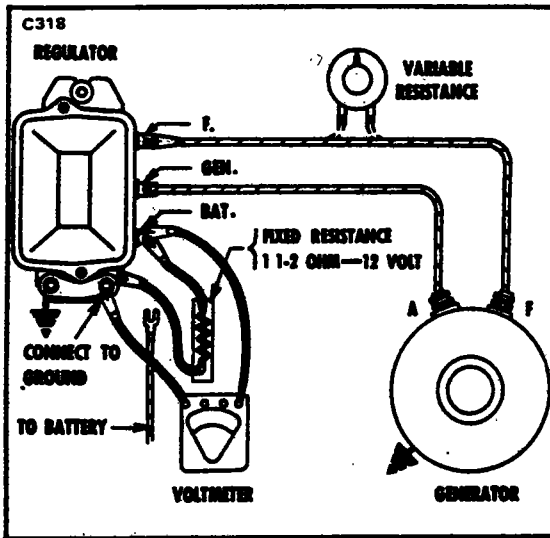

Figure 11-7. Checking Voltage Setting Fixed Resistance Method
b. Voltage Setting: There are two ways to check the voltage setting; the fixed resistance method and the variable resistance method. (Refer to Figures 11-7 and 11-8.)
(a) Connect a fixed resistance between the battery terminal and ground as shown in Figure 11-7 after disconnecting the battery lead from the
Method 2: Connect a variable resistance into the field circuit as in Figure 11-7. Turn out all resistance. Operate generator at specified speed. Slowly increase (turn in) resistance until generator voltage is reduced to 4-volts. Turn out all resistance again and note voltage setting (with voltmeter connected as in Figure 11-7). Regulator cover must be in place.
It is very important that the variable resistance be connected at the "BAT" terminal as shown in Figure 11-7 rather than at the "GEN" terminal even though these terminals are in the same circuit. An examination of the wiring diagram, Figure 11-2, will show that regulation begins at the point where the shunt windings are connected to the series circuit. Any small resistance added to the circuit between the generator and this point will simply be offset by a rise in generator voltage without affecting the output shown at the ammeter.